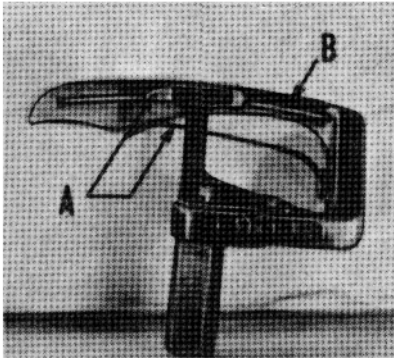

Fig. 15
The spring retainers (A, Fig. 15) on the looper (B) are set correctly when they exert only enough pressure on the needle thread, around the looper, to retard this thread long enough for the descending needle to reach a point where the thread released by these retainers cannot fly or be pulled to the left of the needle.